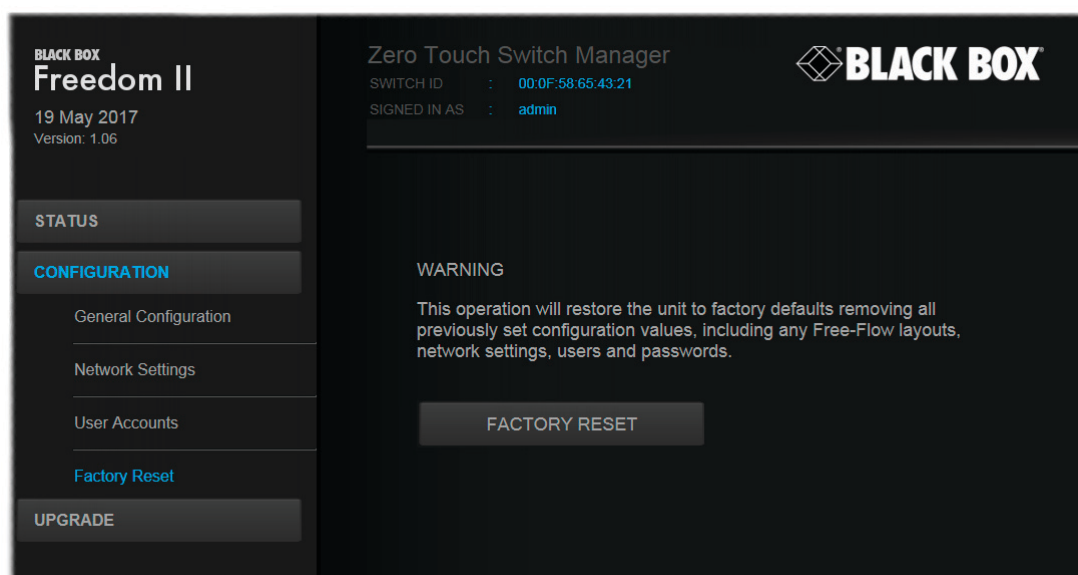

Figure 4-6. The Factory reset page
- 3 On the left side, click the Factory reset option. See Figure 4-6.